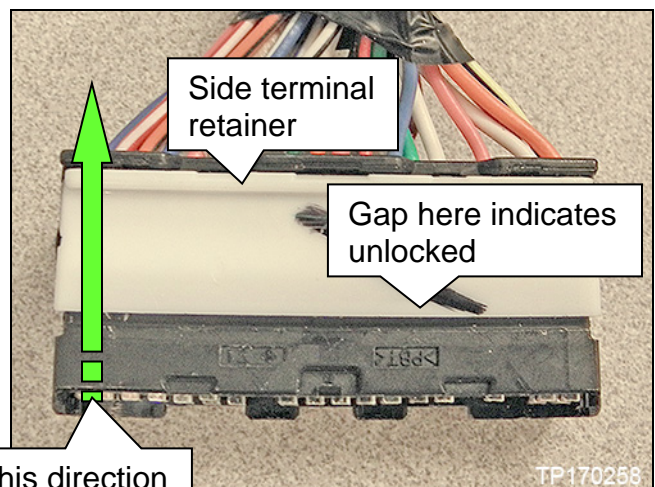

Figure 6
- Slide the side terminal retainer to unlock as shown in Figure 6.